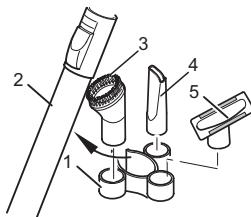

Fig. 5
5. Push the accessories mount (Fig. 5/1) onto the telescopic tube (Fig. 5/2) below the telescopic tube lock. Then push the furniture brush (Fig. 5/3), crevice nozzle (Fig. 5/4) and upholstery nozzle (Fig. 5/5) onto the holders.
- The crevice nozzle, the furniture brush and the upholstery nozzle are included as **accessories** in the scope of delivery. They can be secured to the accessories mount (Fig. 5/1) when not in use.